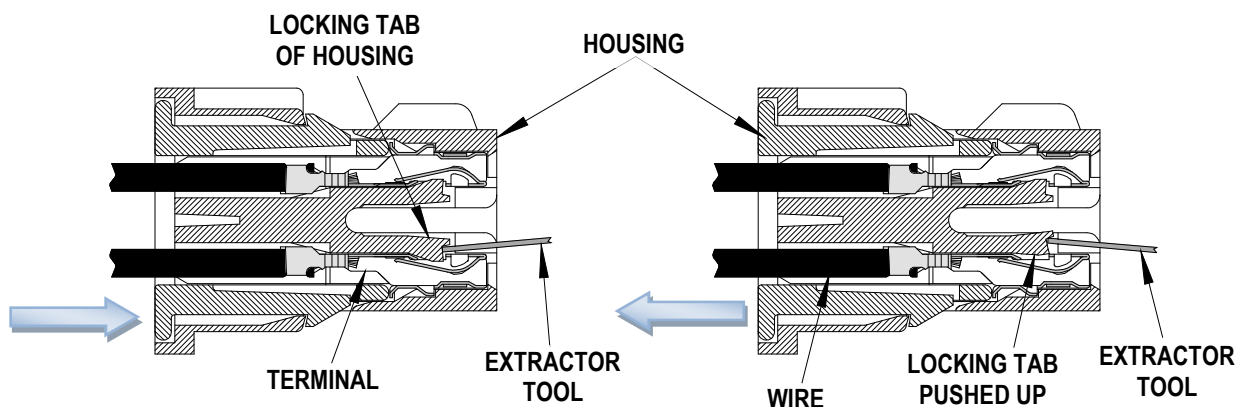

Figure 5
3. While rotating the extraction tool down, bend the terminal locking tang down, and push the terminal back through the connector slot. Make sure that the terminated wire is pulled out at the same time. See Figure 5.